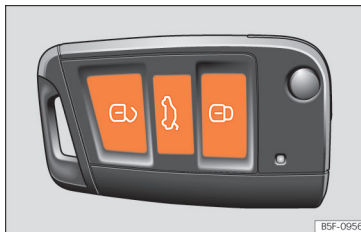

Fig. 81 Remote control key: buttons.
- Lock: press the **Fig. 81** button.